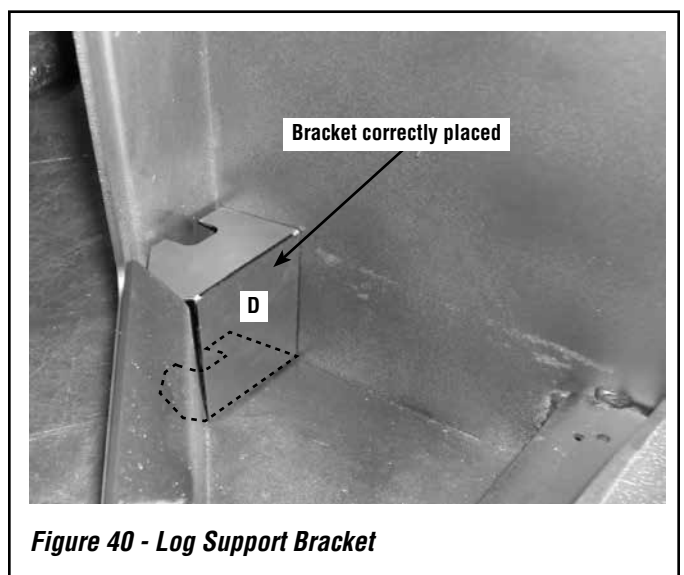

Figure 40 - Log Support Bracket
2. One bracket goes into the left corner and the other into the right corner of the firebox. Rotate the brackets (D) so they are placed as shown in *Figure 40*. The bracket fits between the back of the firebox and the air wash at the front of the insert.